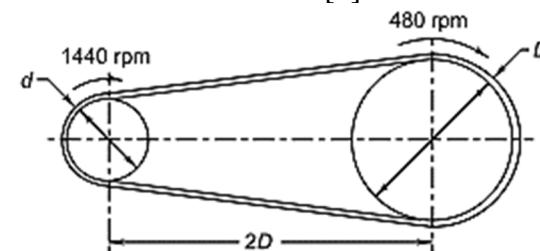

Figure 5
- i. The layout of a leather belt drive transmitting 15 kW of power is shown in Figure 5. The centre distance between the pulleys is twice the diameter of the bigger pulley. The belt should operate at a velocity of 20 m/s approximately and the stresses in the belt should not exceed 2.25 N/mm². The density of leather is 0.95 g/cc and the coefficient of friction is 0.35. The thickness of the belt is 5 mm. Calculate: (a) the diameter of pulleys; (b) the length and width of the belt; & (c) the belt tensions.